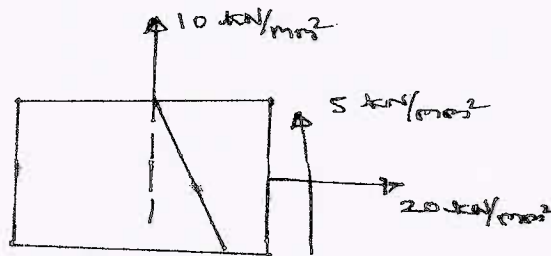

Fig.Q3(b)
- b. The stresses on a strained element are as shown in Fig.Q3(b). Determine: